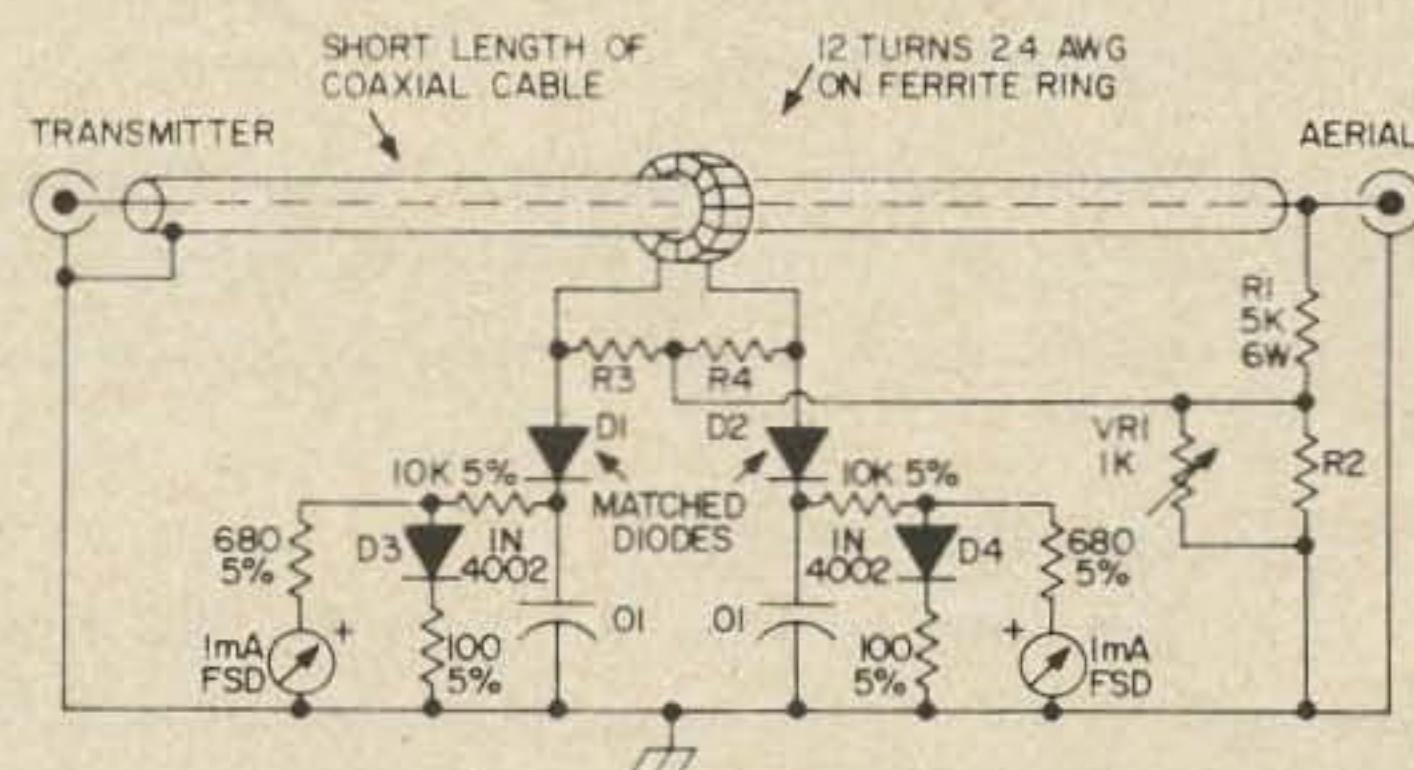
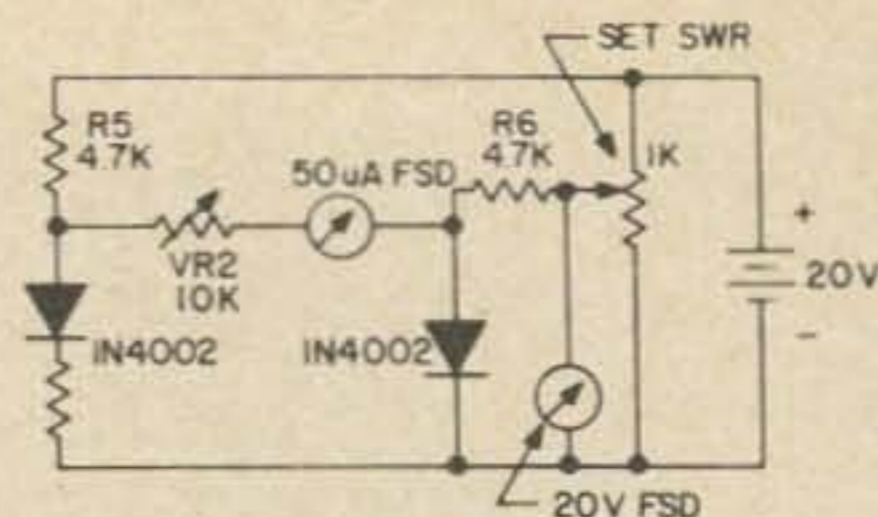

Fig. 9. Complete circuit for a power-independent, frequency-independent direct-reading SWR meter.
Fig. 13. Circuit used to calibrate SWR meters (see text).
In Fig. 9, the two silicon diode voltages are proportional to the logarithms of their currents, which in turn are proportional to the forward and reflected voltages. The two diode voltages can be subtracted directly by connecting a meter between them, rather than from each one to chassis.
A differential amplifier could be added to the circuit of Fig. 9, to enable a less sensitive meter to be used.
Disconnect R5 and R6, Fig. 9, from the detectors, and connect them instead as shown in Fig. 13. One voltage is fixed at about 20 volts, and the other is varied between zero and 20 volts. The ratio of these voltages corresponds to a definite SWR which can be determined from equation (1). Before carrying out this procedure, however, VR2 should be set for full scale deflection of the meter under matched conditions at the highest power level to be used.